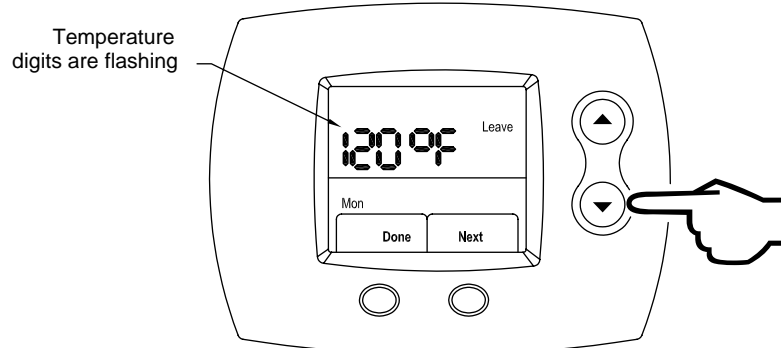

Figure 88
Step 14: Using the **UP** (increase water temperature) or **DOWN** (decrease water temperature) buttons, set the Leave period desired water temperature. This is shown in Figure 88.